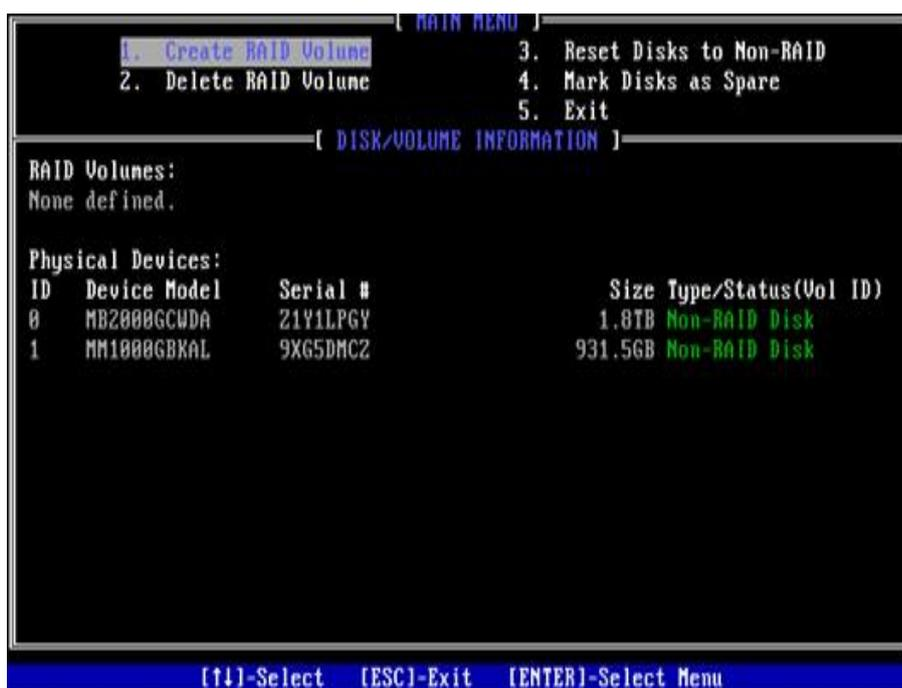

Fig.6.17
- b) As shown in Fig. 6.17, select Create RAID Volume from RSTe, and press Enter.